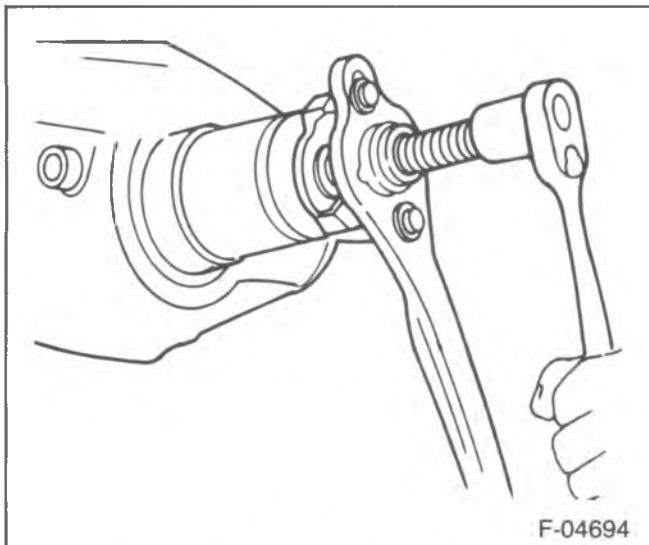

Figure 37—Pinion Flange Removal
- 17. Pinion flange (10) using J-8614-01 (figure 37).